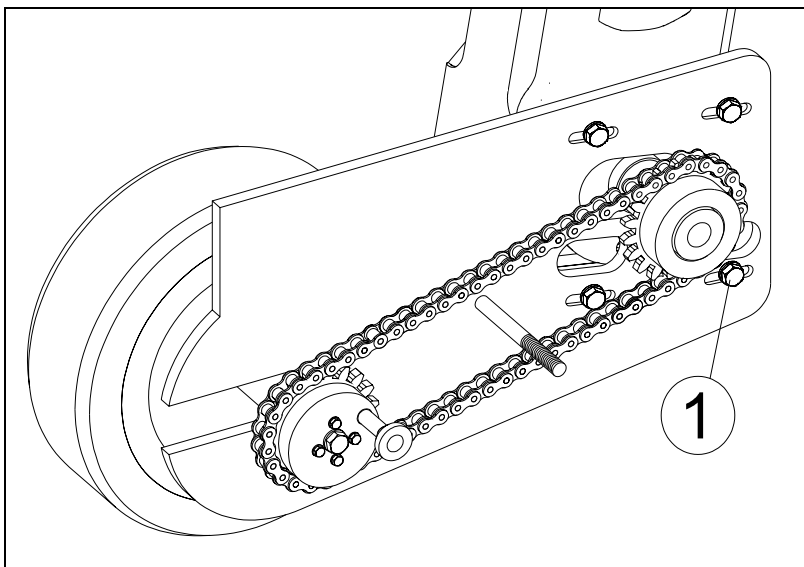

Fig. 7.13
The travel drive motor is mounted on a receiver plate with slotted holes. When it is necessary to re-tense the chain, this can be carried out by shifting the motor in the slotted holes (1). The correct chain tension is achieved when the chain allows to be pressed for about 5 mm between the chain wheels (fig. 7.13).